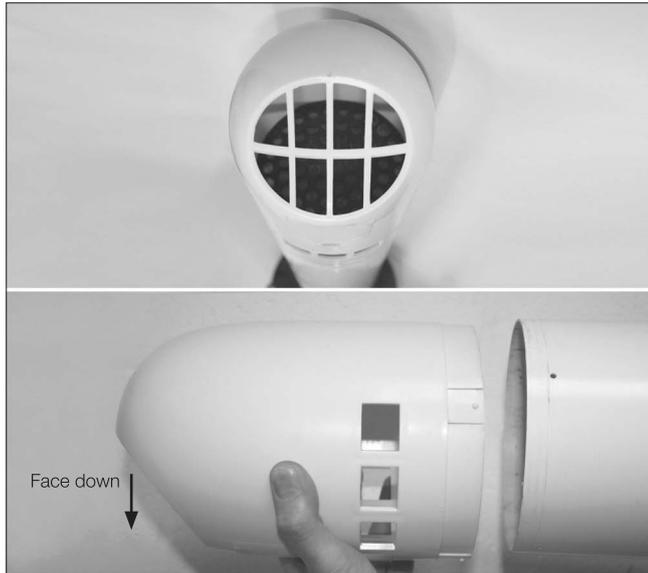

Fig.11A
- 11** The heat cell can now be inserted through the aperture. The cowl end is removable to enable correct orientation. Apply solvent cement and ensure it is always facing downwards (Fig.11A).